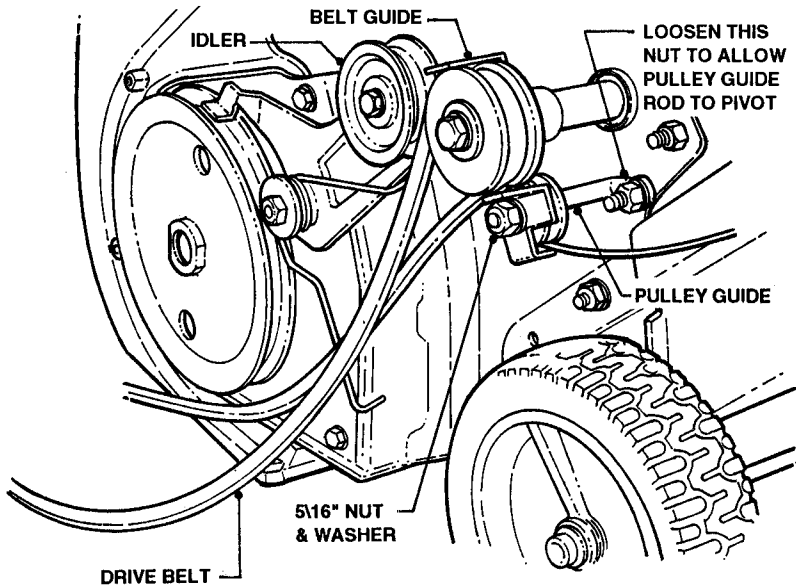

FIGURE 4.3
- E. Loosen the 5/16" nut at the base of the Pulley Guide, sufficient to allow it to pivot. See Figure 4.3.